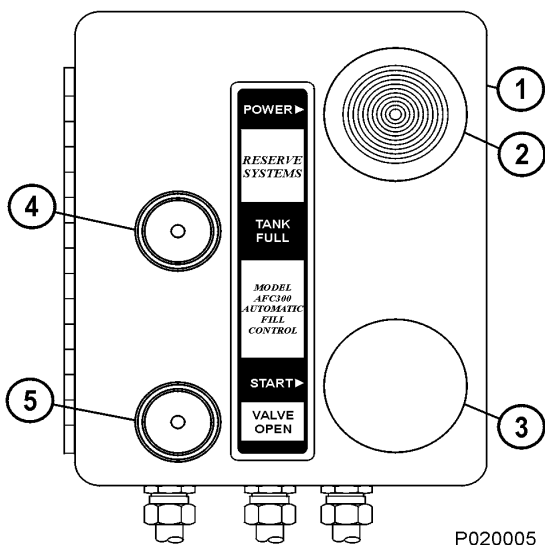

FIGURE 40-3. REMOTE FILL CONTROL BOX
2. Pull power switch (2, Figure 40-3) to turn the system ON.
3. Push start switch (3). VALVE OPEN light (5) should illuminate and the filling process will begin.
4. When tank is full, VALVE OPEN light (5) will turn off and FULL light (4) will illuminate.
6. Press and hold start switch (3) for a couple of seconds.
8. Push power switch (2) to turn the system OFF.